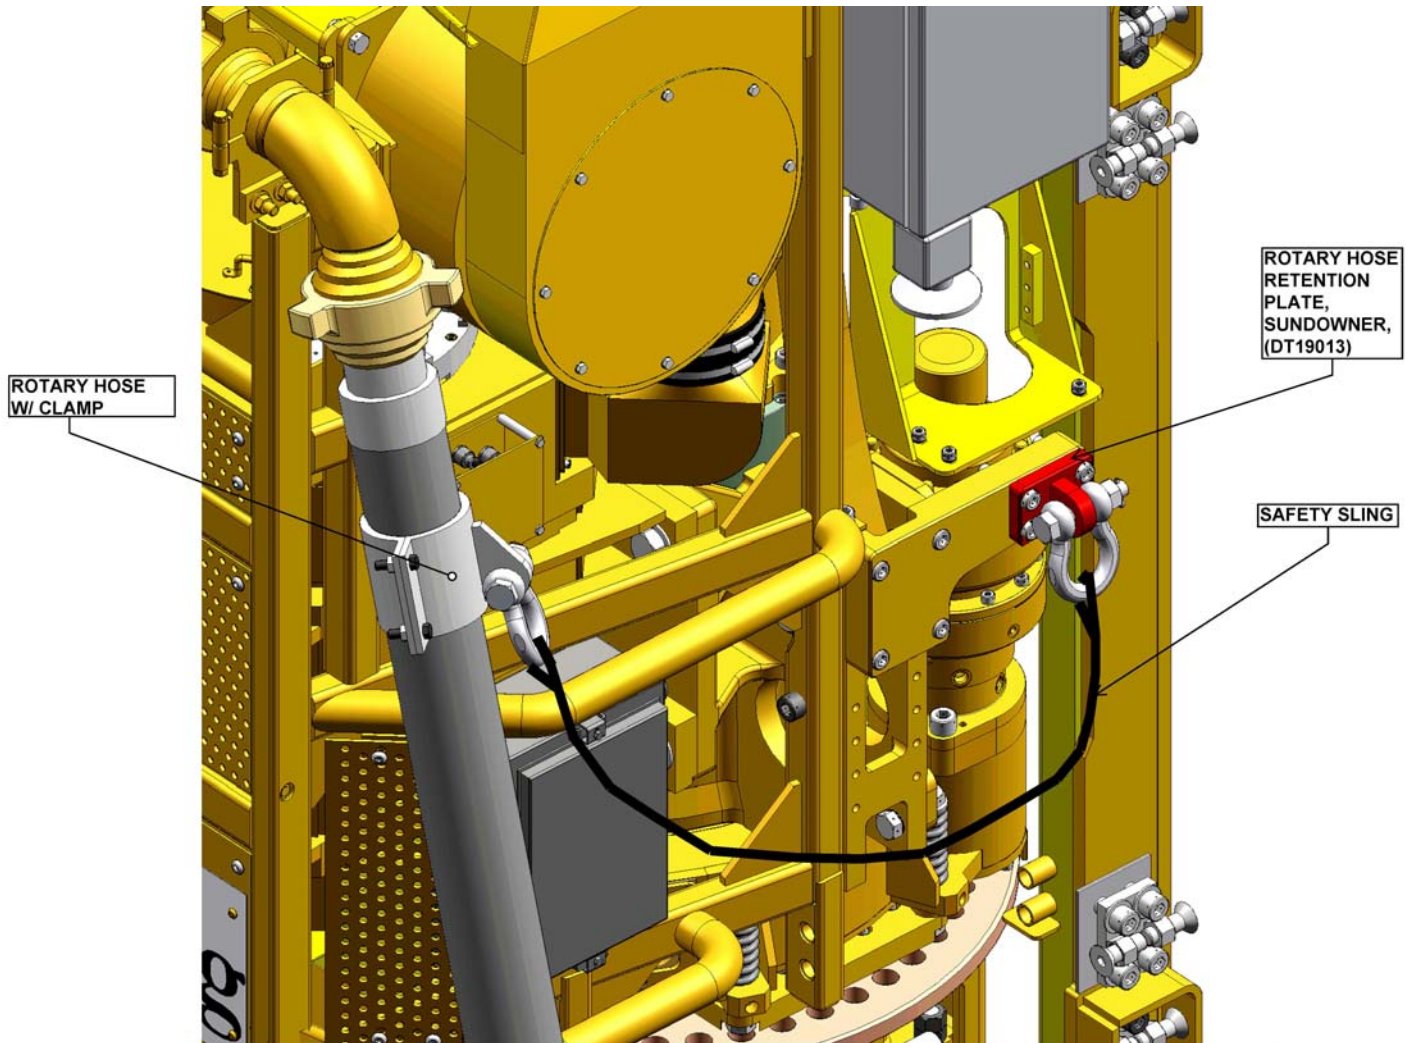

Fig. 3
1. Remove existing (4) $\frac{3}{4}$ "-10UNC capscrews from existing Connector Plate and replace with Rotary Hose Retention Kit (AY16685) for Sundowner which includes Rotary Hose Retention Plate (DT19013) with longer $\frac{3}{4}$ "-10UNC x $3\frac{1}{2}$ " (SH-0750NC-0350-W) capscrews and (4) Nordloc washers (LW-0750-NLS). Rotary Hose Retention Plate is installed on top of the existing Connector Plate. See Fig. 3.
2. Torque the (4) $\frac{3}{4}$ "-10UNC x $3\frac{1}{2}$ " (SH-0750NC-0350-W) capscrews to 350 ft-lbs and safety wire with (M21-2000-010) and (M19-3006-010).
4. Install other end of sling to a shackle and install on the Rotary Hose Clamp. Tie wrap slings to eliminate excess slack with (E03-2000-010). Final assembly should be as shown in Fig. 3.